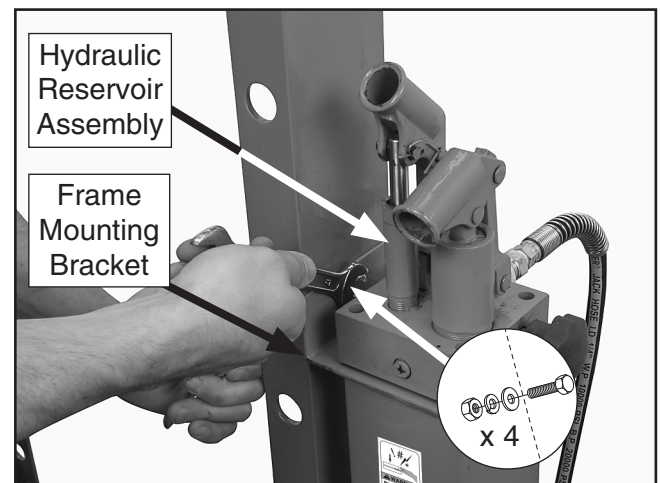

Figure 7. Mounting hydraulic reservoir assembly.
6. Attach hydraulic reservoir assembly to right side of press column (see **Figure 7**) with (2) M10-1.5 x 25 hex bolts, 10mm flat washers, and 10mm lock washers, and M10-1.5 hex nuts.